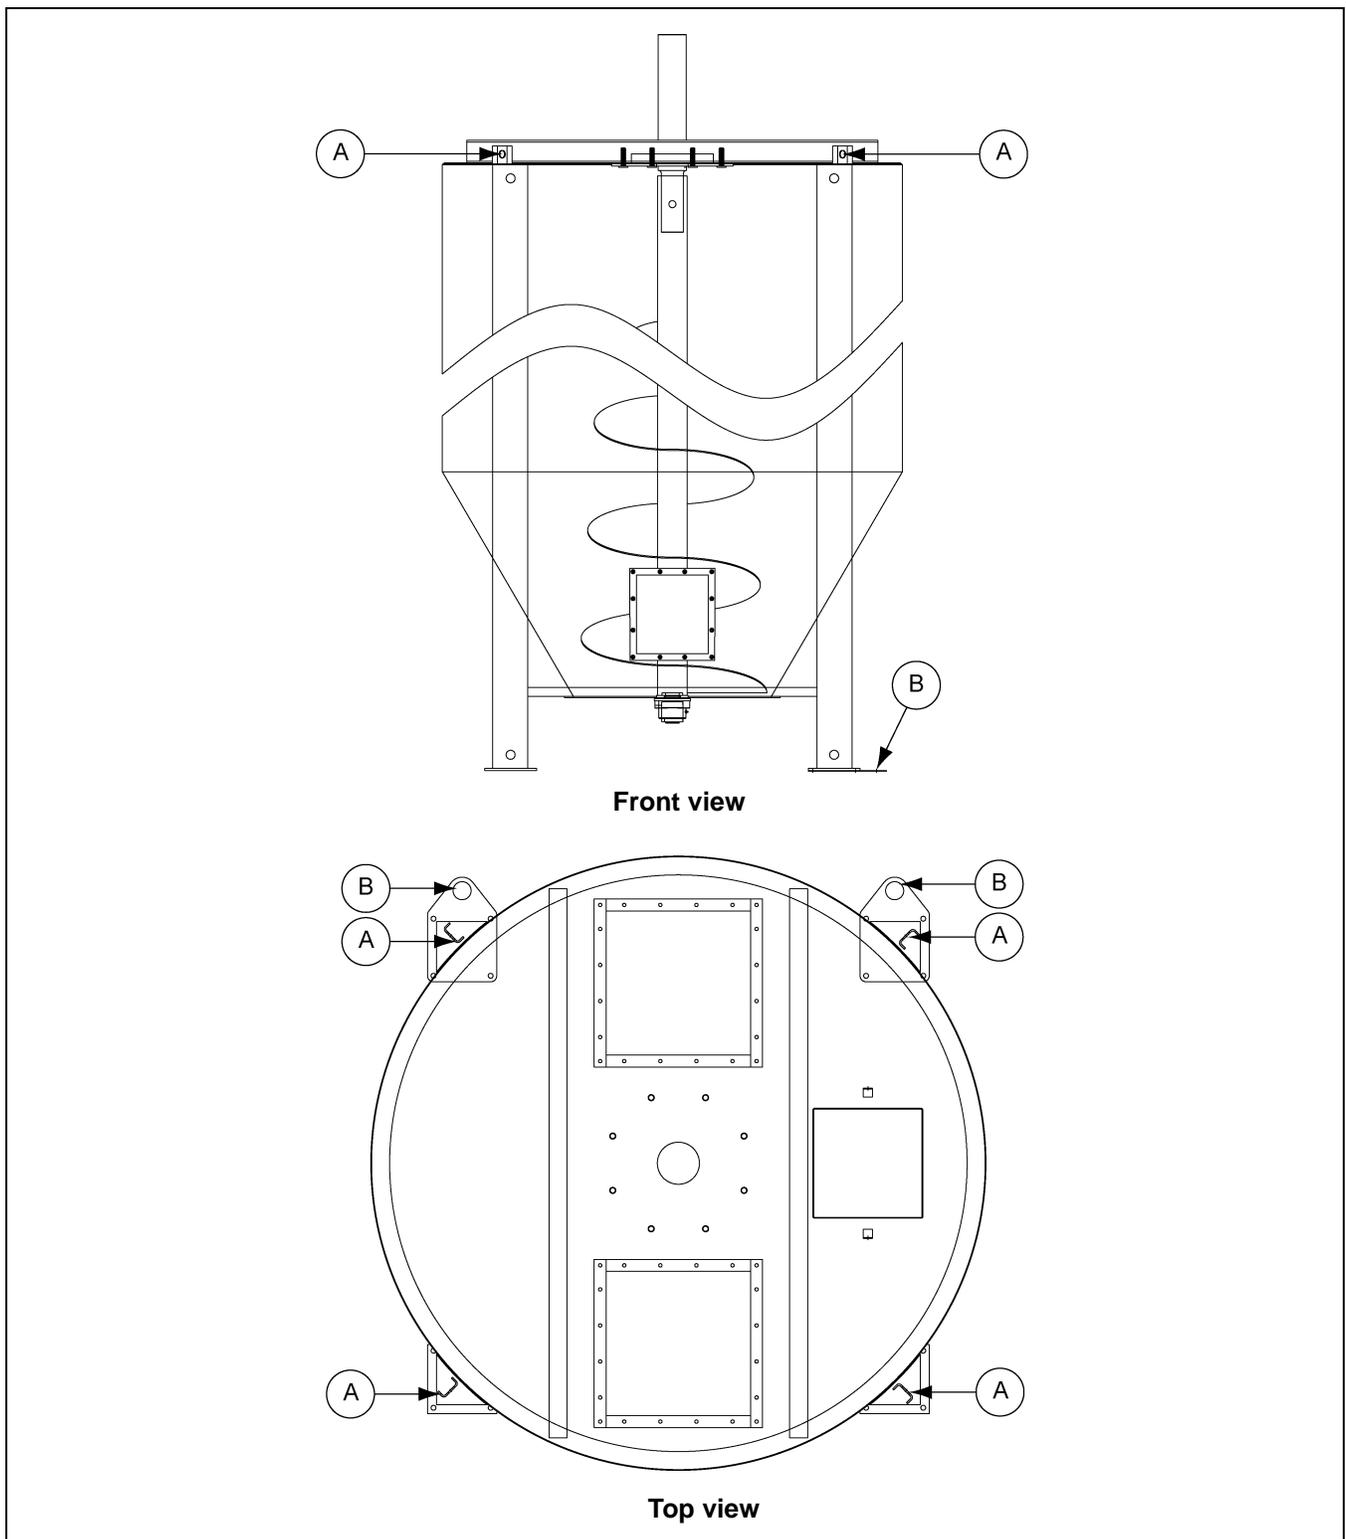

Figure 4A Blender Lifting Points
Make sure all personnel are wearing person protection equipment such as hard hats, steel toe boots, respiratory masks and gloves. Lift only at designed lifting points. Protect the mounting surface from damage. Lifting is done with lifting lugs (B) and hooks (A) as shown in Figure 4A on Page 16.
1. Use four (4) lifting hooks to connect the crane's lifting straps to the module.
2. Use two (2) lifting lugs as a bottom lifting point.